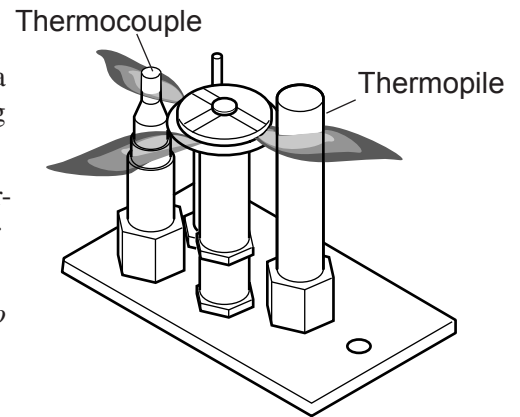

Figure 21 - Before taking unit apart, check pilot flame. Flame should touch thermocouple and thermopile
1. Check pilot flame. Flame should touch approximately $\frac{3}{8}$ " of the top of thermopile and touch top of thermocouple. *See Figure 21.* If not, contact dealer for service.